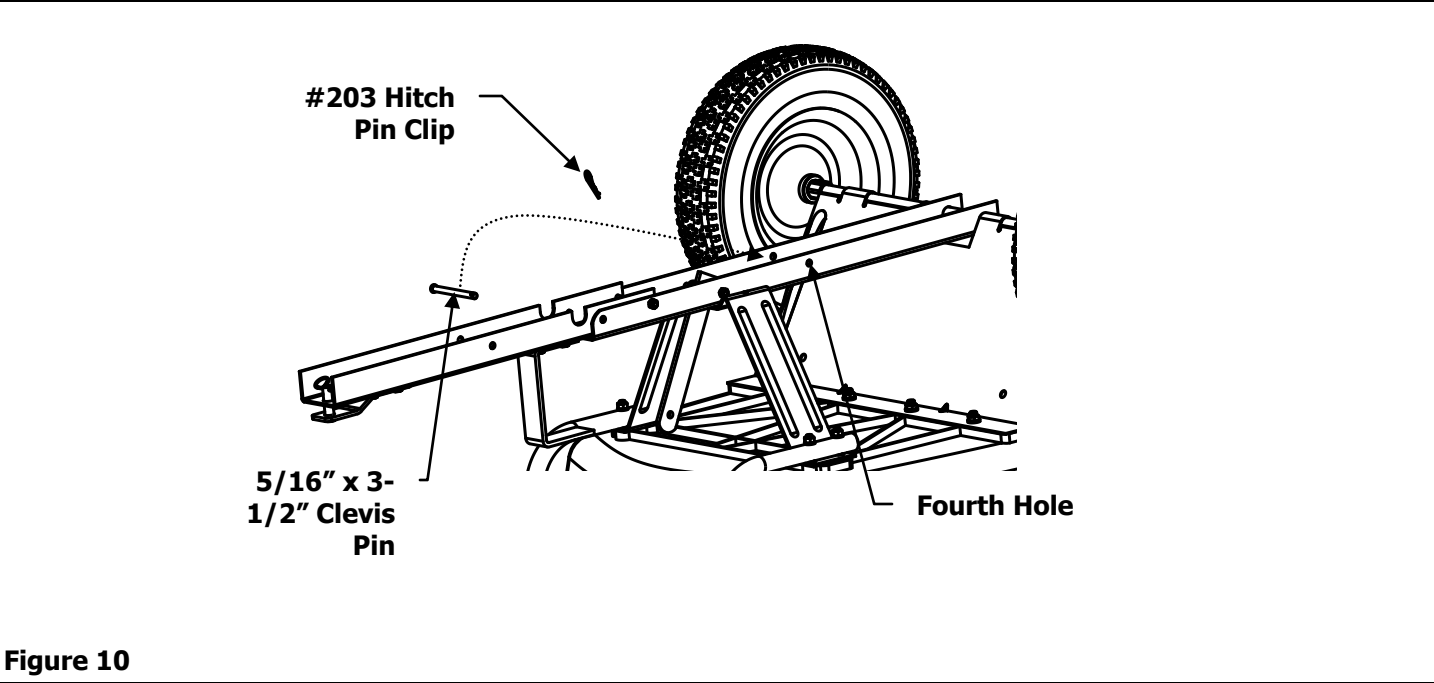

Figure 10
11. To convert your Trailer from Pull unit to a push unit, remove the #203 Hitch Pin Clip from the side of Tow Bar. Remove the 5/16" x 3-1/2" Clevis Pin, turn the Short Tow Bar around until it rests inside of the Long Tow Bar, insert the Clevis Pin into the fourth hole from the front of the Long Tow Bar and secure with the Hitch Pin Clip. See Figure 10.